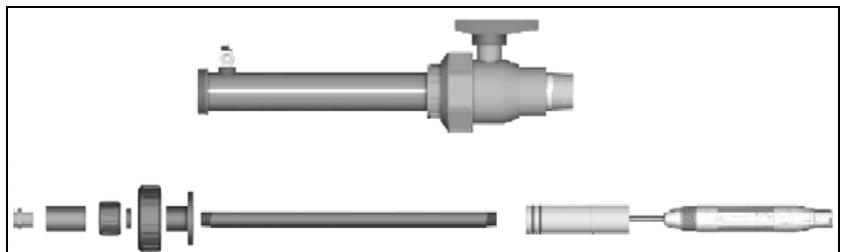

FIGURE 2-9
2. Loosen the cord grip cap at the back of the insert/extract shaft assembly. Refer to Figure 2-9, and route the pH^D™ sensor cable through the shaft assembly and out the cord grip.